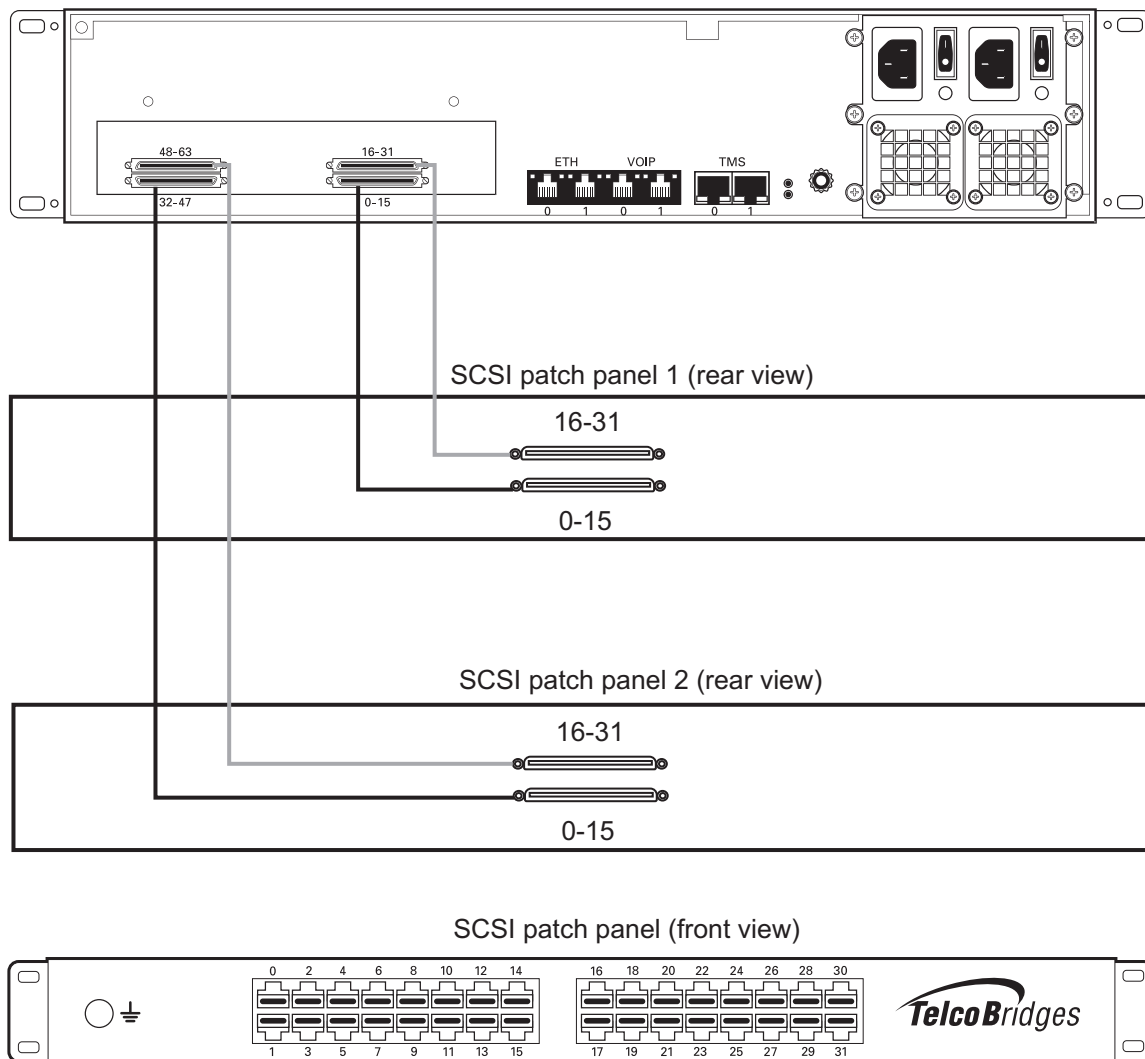

Figure 2.24 TMG7800-TE with SCSI connectors
1. Start with SCSI ports 0-15 located at the bottom right as shown in figure 2.24 on page 33. Connect one SCSI cable between this port and SCSI patch panel number 1, ports 0-15. Connect SCSI ports 16-31 to patch panel number 1, ports 16-31.